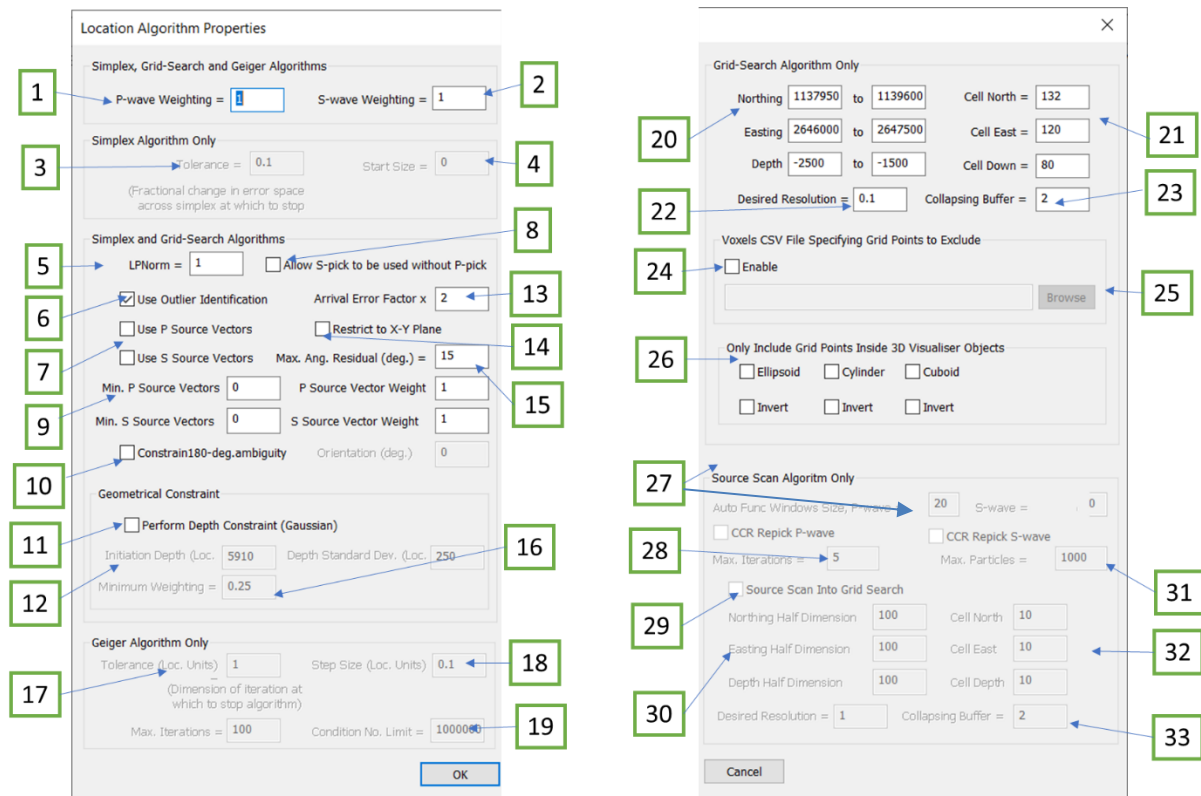

Figure 5-50: The configuration parameters on the Location Algorithm Properties Dialog box.
2. Click on the Algorithm Settings button to display the configuration parameters for the selected algorithm (Figure 5-50). See below and the Technical Appendices (section 3.1) for a description of these parameters and their use in the source location algorithms.